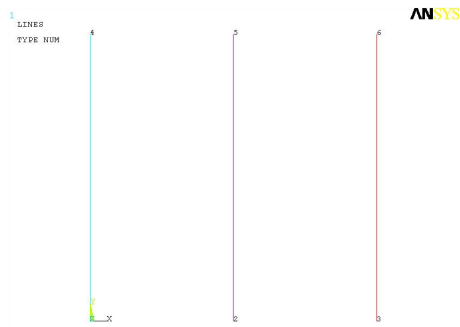

Fig. 3.2. Construction of lines
2) Create line between points 1 and 4, 2 and 5, 3 and 6 (Fig. 3.2)